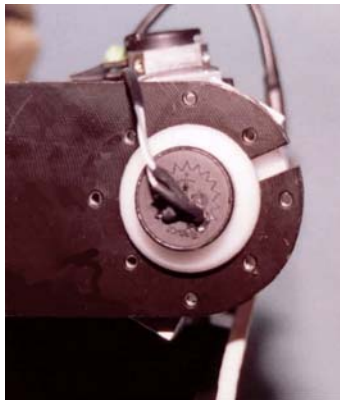

Figure 17.9- Proper orientation of the arrow
8. Rotate the flanged surface of the bushing until the engraved arrow is pointing upwards as shown in **Figure 17.9**. The orientation of the arrow will ensure proper operation of the yoke axis rotary potentiometer during the dynamic test event.